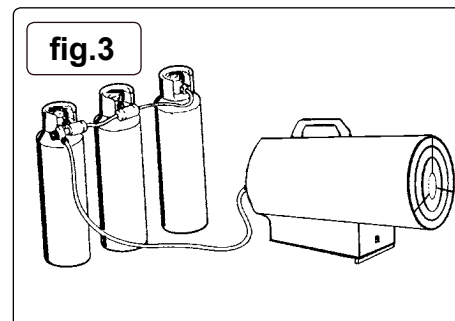

fig.3
- ❑ **WARNING:** If the heater is used continuously for a long period, ice may form on the outside of the gas cylinder. This is due to excessive vapour withdrawal; **DO NOT** apply heat to the cylinder. Consult your gas supplier regarding the provision of a multi-cylinder arrangement using the correct manifold (fig.3).